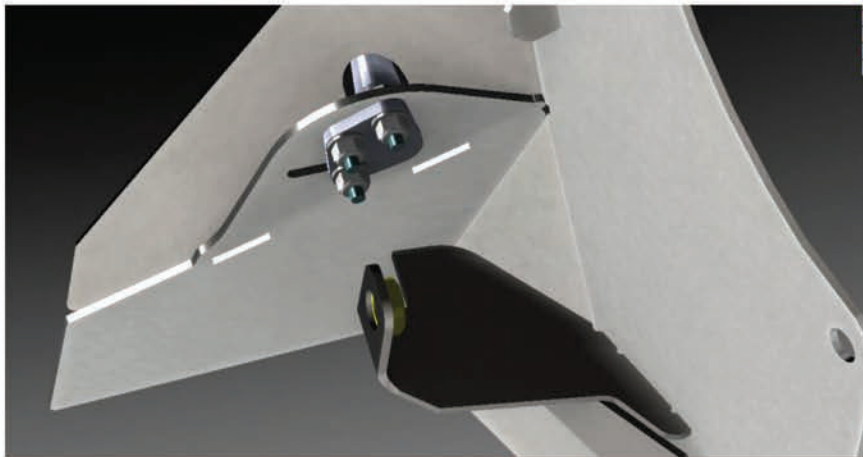

Fig 13.
- e. Remove the antenna mount from the passenger bracket and relocate it to the passenger Vicowl arm as shown in **Fig 13**.